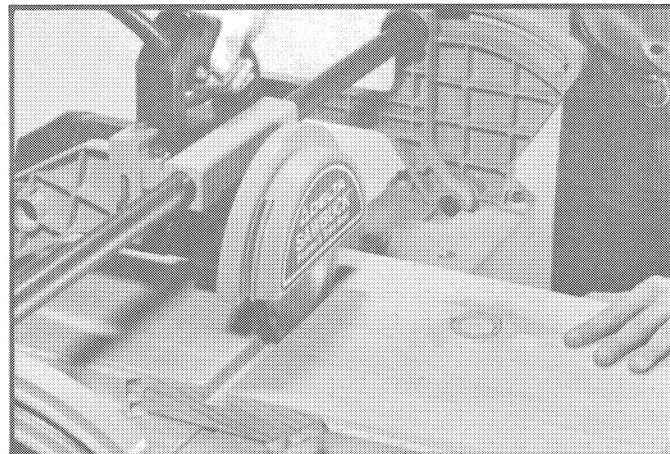

Fig. 59
5. Fig. 59, illustrates a typical dado cutting operation being performed on the Sawbuck. **NOTE:** To adjust for depth of cut, the dado head can be raised or lowered by following the instructions under **ADJUSTING HEIGHT OF SAW BLADE**. If additional depth is required, the workpiece can be raised by putting scrap pieces of wood between the table and workpiece.